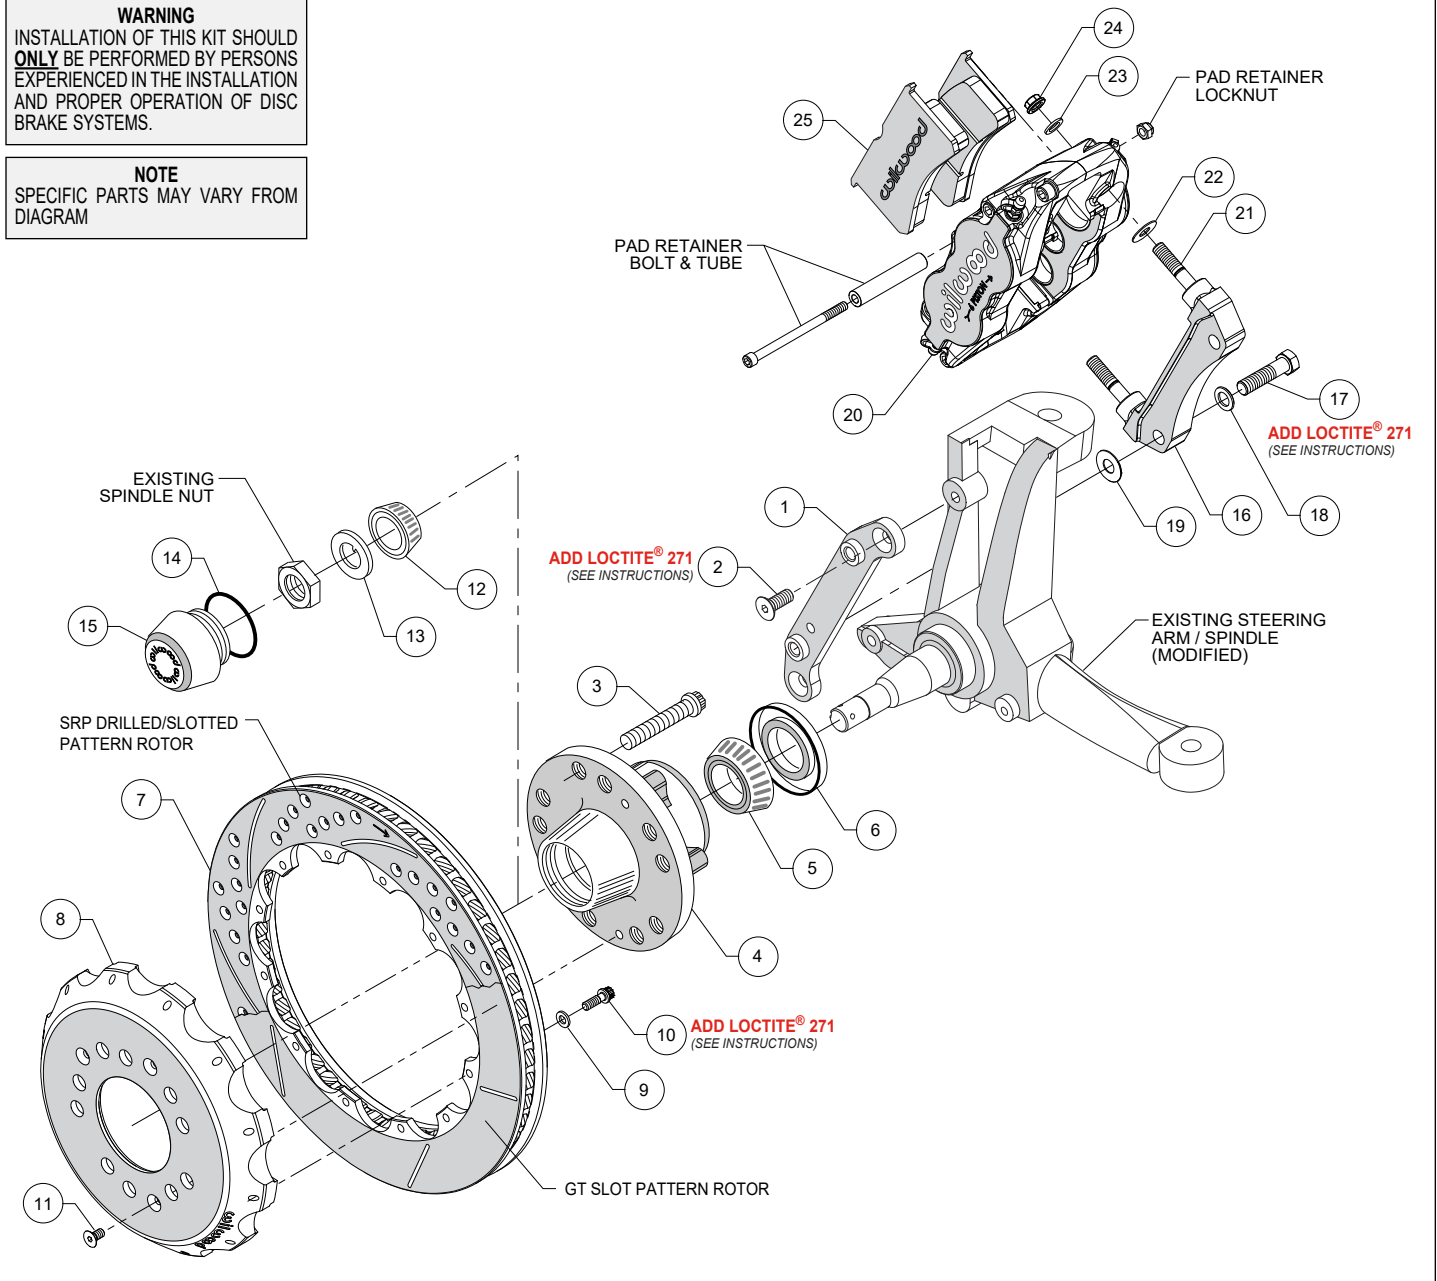
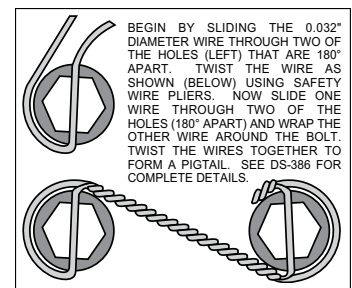

Figure 2. Typical Installation Configuration
Figure 4. Safety Wire Diagram
**NOTE:** Numbers in parenthesis refer to the parts list on the preceding page and Figure 2.
- Orient the caliper mounting flat bracket (1) as shown in Figure 2 and install using bolts (2), Photo 1. **NOTE:** Be sure the heads of the flat mount bracket clinch nuts (1) are facing outward toward the wheel. Temporarily tighten the mounting bolts. **NOTE:** The bracket must fit squarely against the mount bosses on the upright. Inspect for interference from casting irregularities, machining ridges, burrs, etc. After the bracket fitment has been checked, remove the bracket mounting bolts (2) one at a time, apply red *Loctite*® 271 to the threads and torque to 30 ft-lb.
- Install five new wheel studs (3) into the hub (4). Torque to 77 ft-lb. **NOTE:** There are two five lug patterns in the hub (5 x 4.50 and 5 x 4.75). Make sure of the correct hole pattern for the correct wheel application before installing studs into hub.
- Pack the large inner bearing cone (5) with high temperature disc brake bearing grease (available from your local auto parts store) and install into the backside of the hub (4).
- Install the grease seal (6) by pressing into the backside of the hub (4).
- Pack the small outer bearing cone (12) with high temperature disc brake bearing grease and install into front side of the hub (4). Slide the hub assembly (4, 5, 6 and 12) onto the spindle. Secure using spindle washer (13), stock adjusting nut, and nut locking device. Adjust wheel bearing pre-load per Original Equipment Manufacturer (OEM) specifications.
- Install the o-ring (14) and the dust cap (15) into the hub (4). **NOTE:** O-ring (14) friction will not allow cap (15) to unscrew on its own.
- With the larger I.D. side of the rotor (7) facing away from the hat (8), bolt rotor (7) to hat (8) through the backside of the rotor using washers (9) and bolts (10). Apply red *Loctite*® 271 to the bolt threads and torque to 155 **in-lb** using a criss-cross pattern. For an added measure of security, the bolts may be safety wired using standard 0.032 inch diameter stainless steel safety wire as shown in Figure 4. Please refer to Wilwood's data sheet DS-386 (available at [www.wilwood.com/Pdf/DataSheets/ds386.pdf](http://www.wilwood.com/Pdf/DataSheets/ds386.pdf)) for complete safety wire installation instructions.
- Slide the rotor/hat assembly over the studs (3) in the hub (4) taking care to align the small countersunk holes in the hat (8) with the small threaded holes in the hub (4). Install three flat head socket head screws (11) through the small holes in the hat (8) and torque to 85 **in-lb**. Check to be sure the hat seats squarely against the hub face.
- NOTE:** Please reference the caution statement at the beginning of the assembly instructions. The radial mount caliper bracket (16) should initially be installed with clean, dry threads on the mounting bolts (17). Orient the bracket, as shown in Figure 2 and install using bolts (17) and washers (18). Initially place one .030" thick shim (19) on each bolt between the radial mount caliper bracket (16) and caliper mounting flat bracket (1), Figure 2. Temporarily tighten the mounting bolts. Later, after the caliper alignment has been checked, the mount bolts will be secured using red *Loctite*® 271.
- NOTE:** This kit contains distinct right and left hand calipers that must be mounted in a specific direction, as described in below. Initially place one .035" shim (22) on each stud between the caliper and the bracket, as shown in Figure 2. Mount the caliper (20) onto the radial mount caliper bracket (16) using lock nuts (24) and washers (23), Figure 2. Ensure that the caliper is mounted so the largest pistons are at the rotor exit end of the caliper, in relation to the forward direction of rotor rotation. Temporarily tighten the lock nuts and view the rotor through the top opening of the caliper. The rotor should be centered in the caliper. If not, adjust by adding or subtracting .030" shims (19) as necessary between the radial mount caliper bracket (16) and the caliper mounting flat bracket (1). Always use the same amount of shims on each of the two mounting bolts (17). Once the caliper alignment is correct, remove the radial mount caliper bracket bolts (17) one at a time, apply red *Loctite*® 271 to the threads, and torque to 47 ft-lb.
- Remove the caliper pad retainer bolt, locknut, and tube from the caliper. Slide the brake pads (25) into place. They should install easily without interference. Check that the outside radius of the brake pad is flush with the outside diameter of the rotor face. Add or subtract shims (22) between the caliper and mount bracket to gain the proper alignment. Reinstall the caliper and torque the caliper nuts (24) to 30 ft-lb. Reinstall the pad retainer tube, bolt, and locknut. The locknut should be snug without play in the bolt or tube. Be cautious not to over tighten.